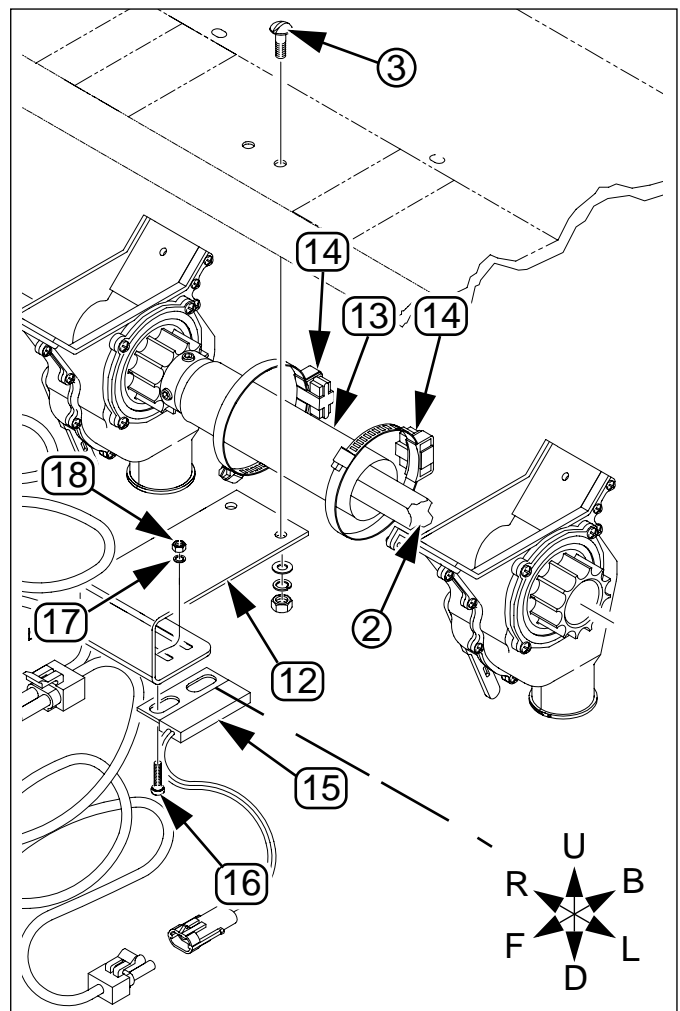

Figure 3
Refer to Figure 3 on page 3
4. Install the washers and nuts removed in step 2 and tighten the sensor mount ⑫ in place.
5. Attach the reed sensor switch ⑮ at the slotted end of the bracket using two #4-40 screws ⑯, washers ⑰, and nuts ⑱ as shown in Refer to Figure 3. Do not tighten screws at this time.
Refer to Figure 3
1. De-grease and dry the seed box shaft ②.
⑬ 197-270D SHAFT MONTITOR HOSE
4. Slip the shaft monitor hose ⑬ over the shaft ② and center approximately with the middle of the sensor mount ⑫. If necessary, trim hose to fit between the shaft lock collars.
⑭ 10630171101 SHAFT MONITOR MAGNETS
6. Slip each magnet ⑭ over the hose ⑬, and position as shown in figure 3. Run each magnet clamp up against each lock collar, then tighten the clamps.
7. Slide the reed sensor switch ⑮ in the mount side-to-side, and front-to-back until it is centered between the magnets and tighten the #4-40 screws ⑯.